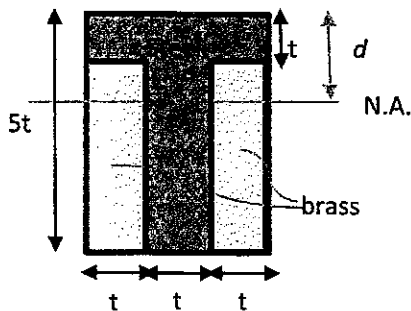

Fig. 4
4. A composite beam section is bonded by one T-shaped steel and two brass pieces, shown in Fig 4. Knowing that the ratio of moduli in two materials is $E_s/E_b = 2$.